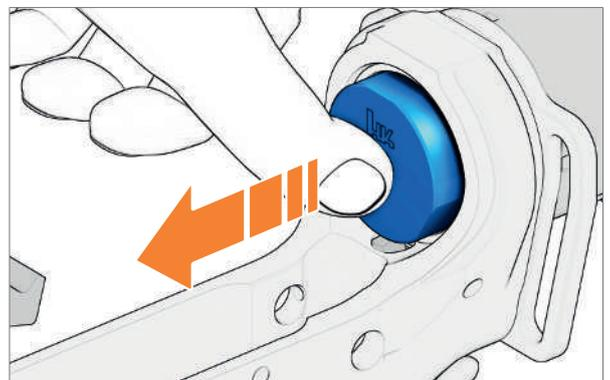

Fig. 96: Pull out buffer and recoil spring
4. Pull buffer and recoil spring forwards out of the buttstock (*Fig. 96*).